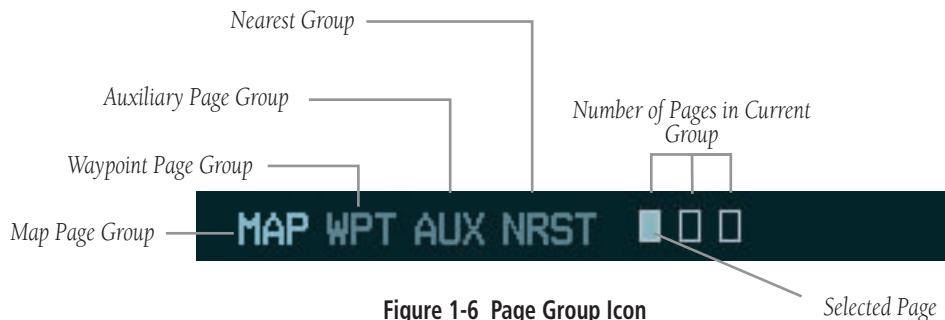

Figure 1-6 Page Group Icon
2. Turn the **small FMS** knob to select pages within the group. See Figure 1-6.